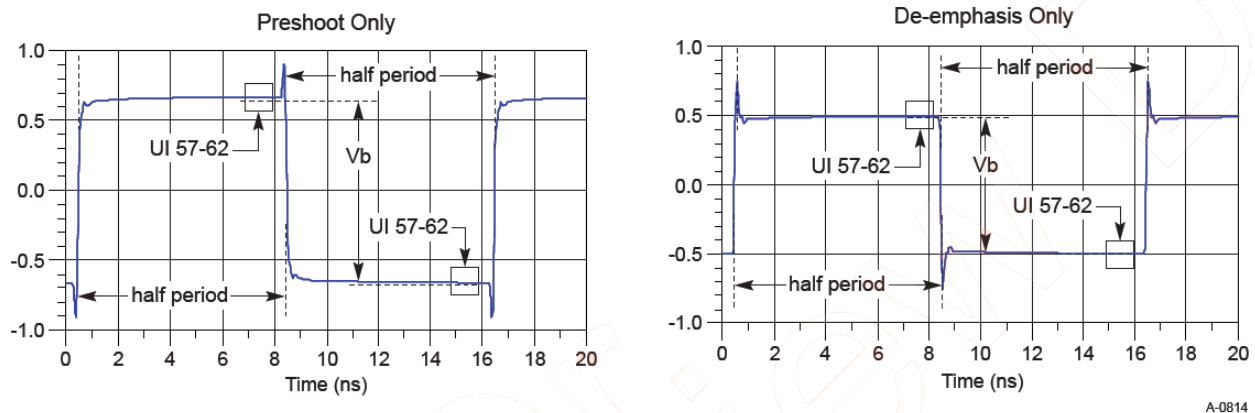

Figure 86 Waveform measurement points for pre-shoot and de-emphasis
8.0 GT/s and 16.0 GT/s PCIe signaling must support the full range of presets given in Table 8-1 of the PCI Express Base Specification, Rev 4.0. Presets are defined in terms of ratios, relating the pre-cursor and post-cursor equalization voltages. The pre-cursor (V_c) is referred to as pre-shoot, while the post-cursor (V_b) is referred to as de-emphasis. This convention permits the specification to retain the existing 2.5 GT/s and 5.0 GT/s definitions for Tx equalization, where only de-emphasis is defined, and it allows pre-shoot and de-emphasis to be defined such that each is independent of the other. The tolerances in Table 8-1 also apply to 2.5 and 5.0 GT/s de-emphasis. The maximum swing, V_d , is also shown to illustrate that, when both c_{+1} and c_{-1} are non-zero, the swing of V_a does not reach the maximum as defined by V_d . Figure 8-5 is shown as an example of transmitter equalization, but it is not intended to represent the signal as it would appear for measurement purposes. The high frequency nature of PCIe signaling makes measurement of single UI pulse heights impractical. Consequently all amplitude measurements are made with low frequency waveforms, as shown in Figure 86.